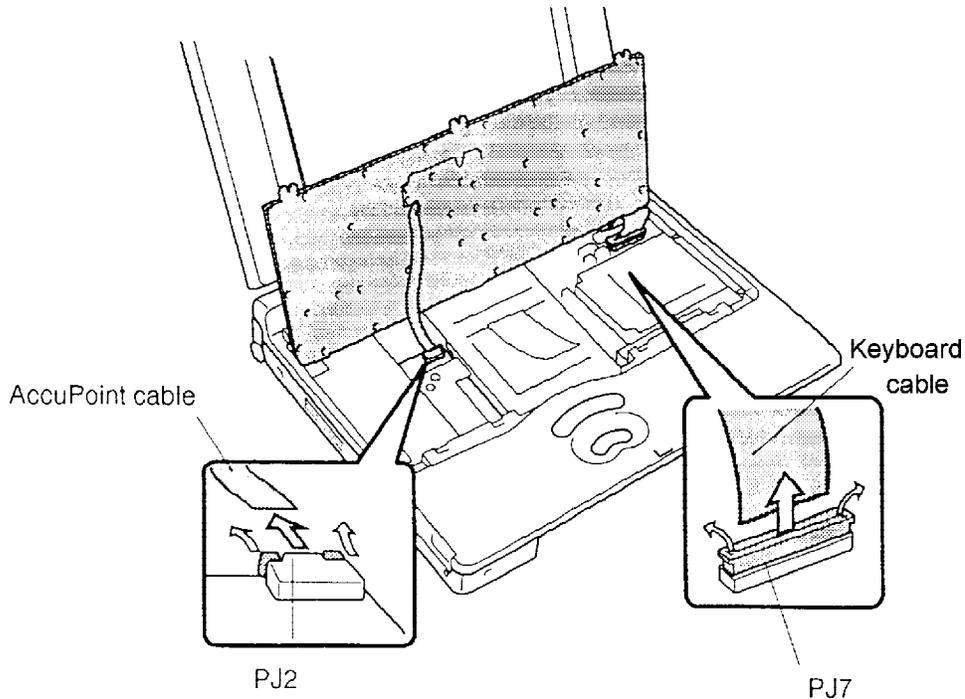

Figure 4-12 Removing the keyboard cable
7. Disconnect the **AccuPoint cable** from **PJ2** and the **keyboard cable** from **PJ7** (figure 4-12).
1. Connect the **AccuPoint cable** to **PJ2** and **keyboard cable** to **PJ7** (figure 4-12).